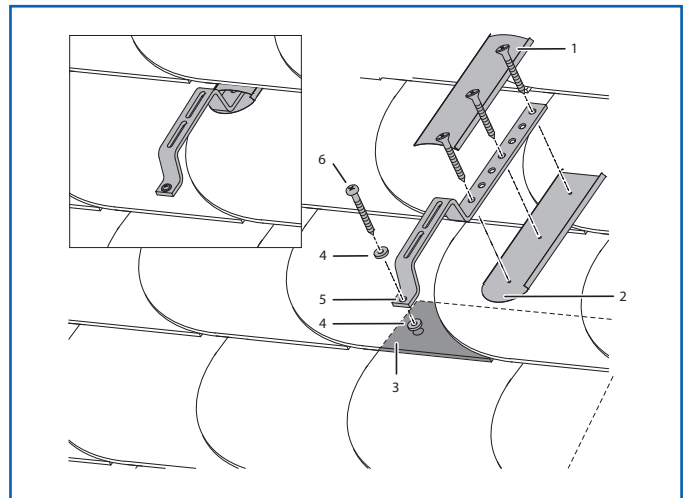

Fig. 129 Special roof jack with waterproof cover (optional) for attaching a rooftop installation kit for flat-plate collectors to a slate or shingle roof
Roof jack installations on slate or shingle roofs should be carried out by a roofing contractor. Fig. 129 shows an example of an installation of the roof jacks (item 5 Fig. 129) on a slate or shingle roof. Gaskets, caulking and flashing to be provided on site. The horizontal profile rails are to be fastened to the roof jacks in the same way as on a tile roof (Fig. 125).
### Legend (Fig. 129)